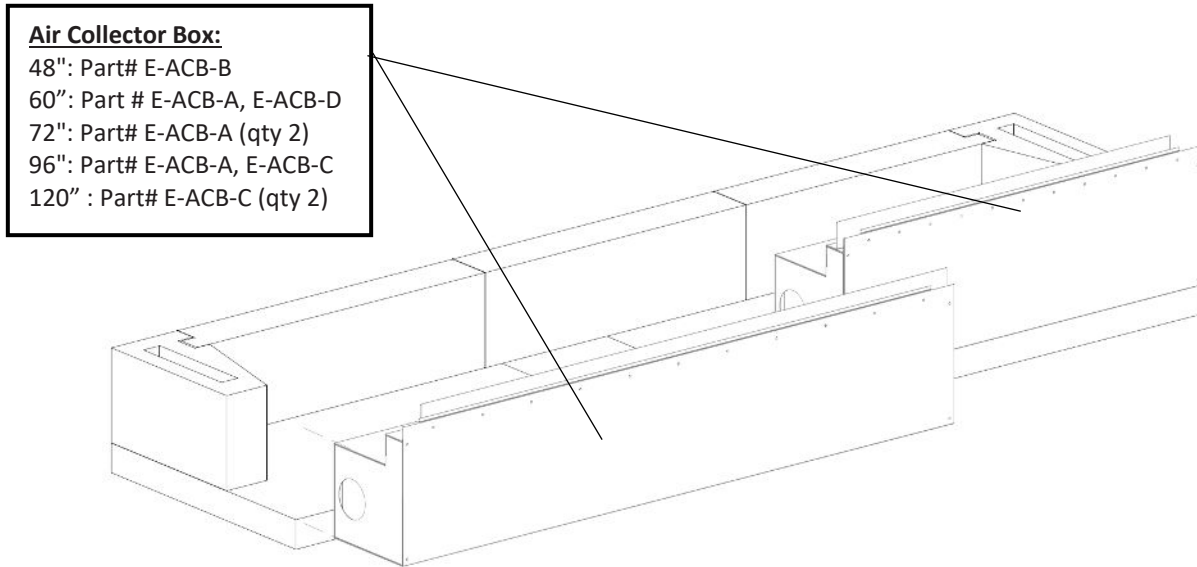

FIGURE 11
- 3) The Air Collector Box Assemblies will be placed on top of the base plate(s) as shown (**Figure 11**).